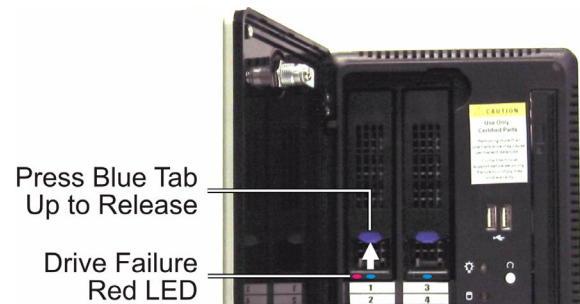

Figure: 2
2. The failed hard drive will be indicated by a red LED on the front bezel of the hard drive carrier (see figure 2). If a red LED is not found, use Windows® Remote Desktop to connect to the Infinity System and run the System Status icon on the desktop to locate the failed hard drive. Below is a sample of the web page showing a failed drive: